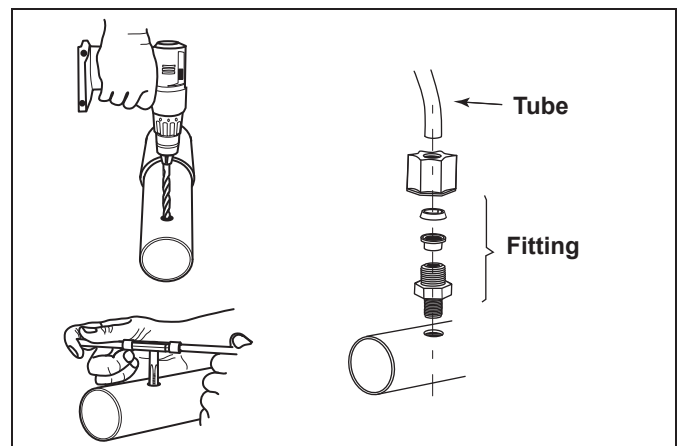

Figure 8. Pipe Tap and Threaded Fitting
1. If using a pipe tap, drill a 7/16" hole and tap a 1/4" NPT hole. Be careful not to over tap the hole. See Figure 8.